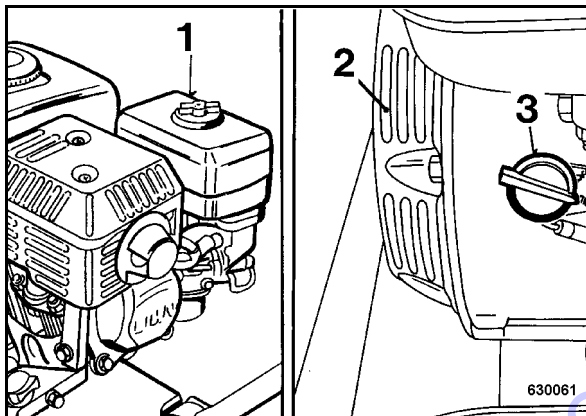

Fig. 27
Do not guide the water jet directly into air filter/ carburettor (1) (Fig. 27), starter/air intake (2) and motor switch (3).